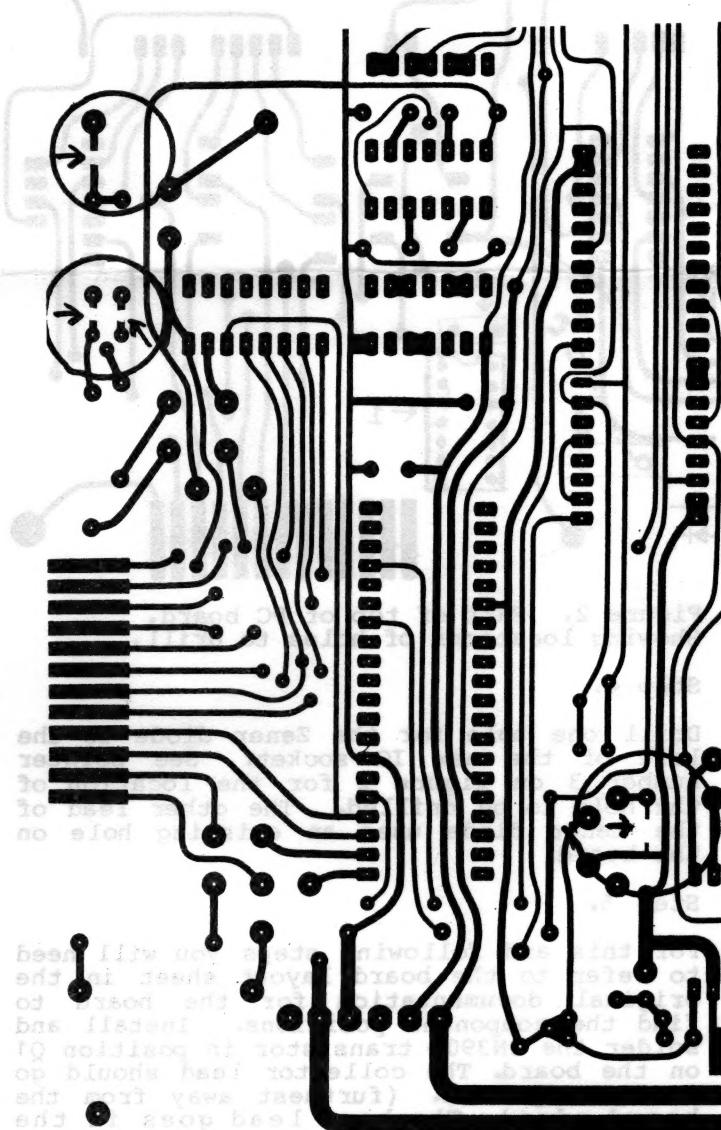

Figure 1. Part of back of PC board.
Make four (4) cuts in the land pattern connections on the back of the board. A sharp knife or small grinding wheel is useful to break the land pattern. See figure 1 for the locations of these four cuts.